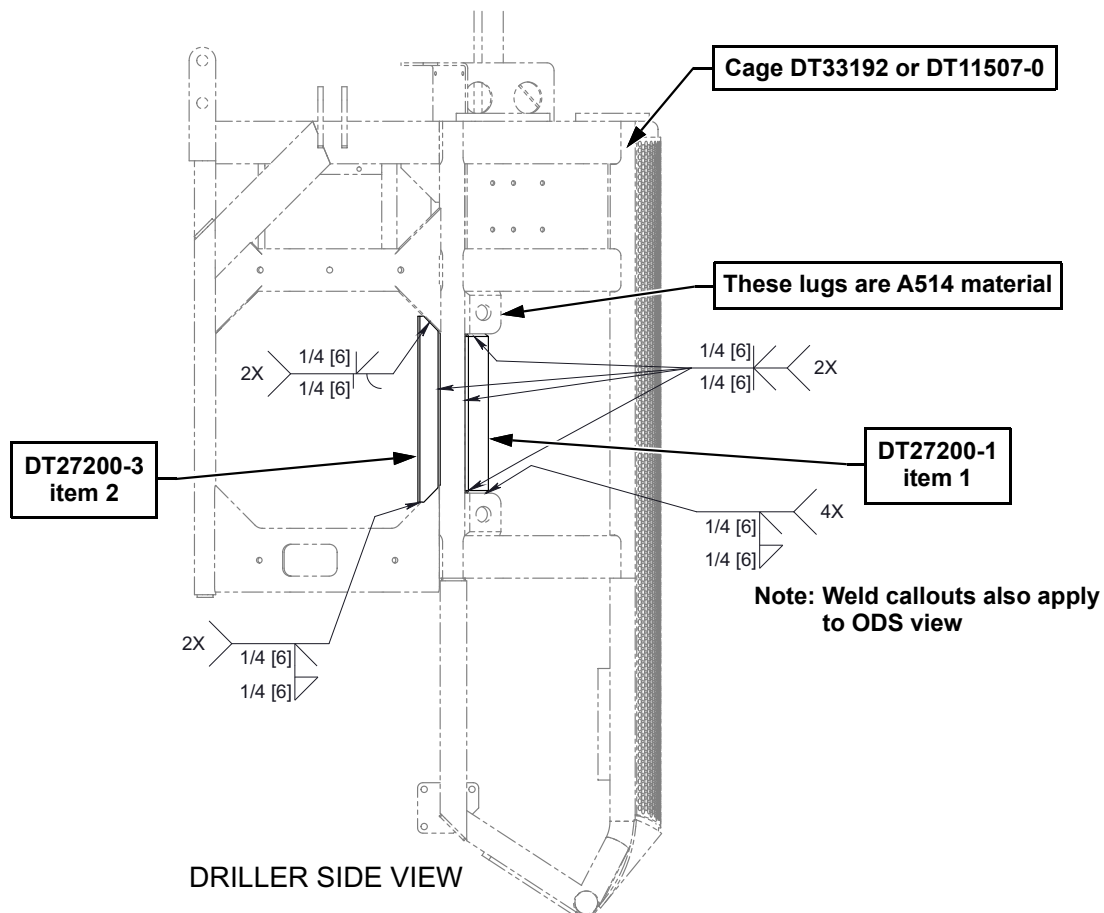

Figure 7: Plates installed on cage (DS)
1. Weld item DT27200-1 (item 1) and DT27200-3 (item 2) to the DS of the cage as shown in Figure 7. **Note:** Outside of items 1 and 2 are flush with outside of plate/HSS above and below them.